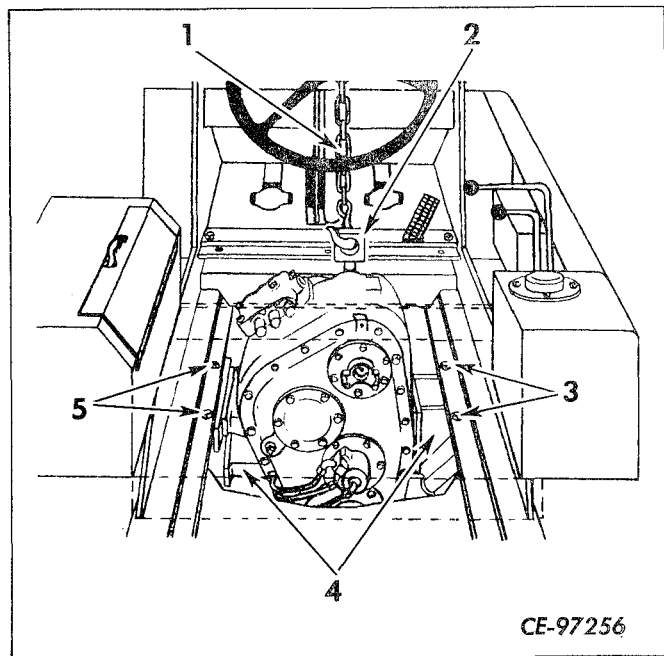

Figure 4-96
Install mounts (4, Fig. 4-96) on transmission. Place transmission under machine. Attach chain hoist (1) to lifting eye (2) and raise transmission into position. Secure transmission mounts to frame with cap screws (5 and 3). Tighten cap screws to recommended torque (refer to "SPECIAL TORQUES").